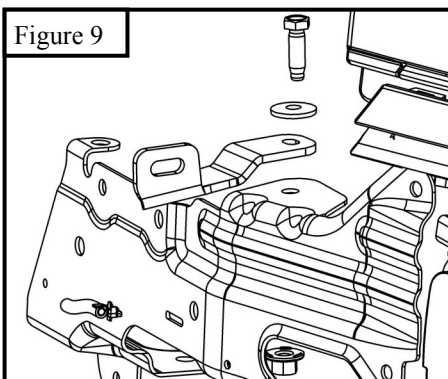

Figure 9
9. Locate (1) Top Support Strap (Item 5/6). Remove factory hardware at mounting location. Loosely install Top Support Strap with the factory hardware located at the mounting location. Adjust them so that they are approximately 20-5/8" from the center of the bumper then torque the factory hardware to 50-55 ft-lb. **See Figures 9, 10 and 11.**